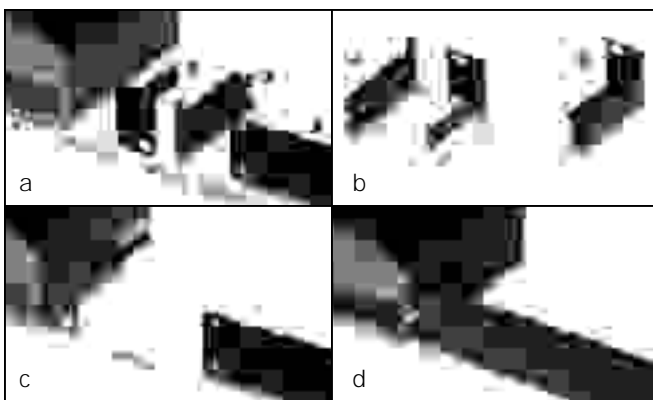

Fig. 1: Installing a single receiver in a 19" rack.
2. Slide the clamping slides (3) and rack ears (2) into the fixing rails on both sides of the receiver (1) from rear to front as shown in fig. 1 c.
3. Tighten the two Phillips screws in the clamping slides (3) CW to fix the rack ears (2) on the receiver (1).